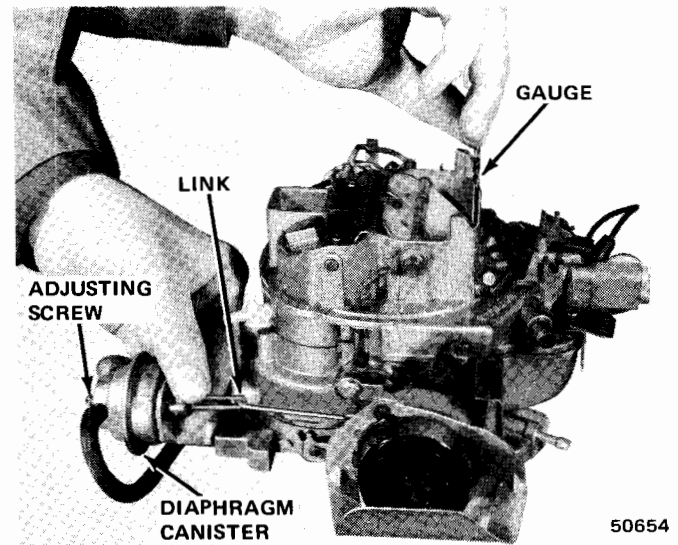

Fig. 4-78 Measuring Initial Choke Valve Clearance
(1) Loosen choke cover screws.
(2) Open throttle and rotate choke cover until choke valve is held closed.
(3) Close throttle. Fast idle speed screw should be on top step of cam.
(4) Bottom choke diaphragm against setscrew. Do not press on links.
(5) Measure clearance between lower edge of choke valve and air horn (fig. 4-78).